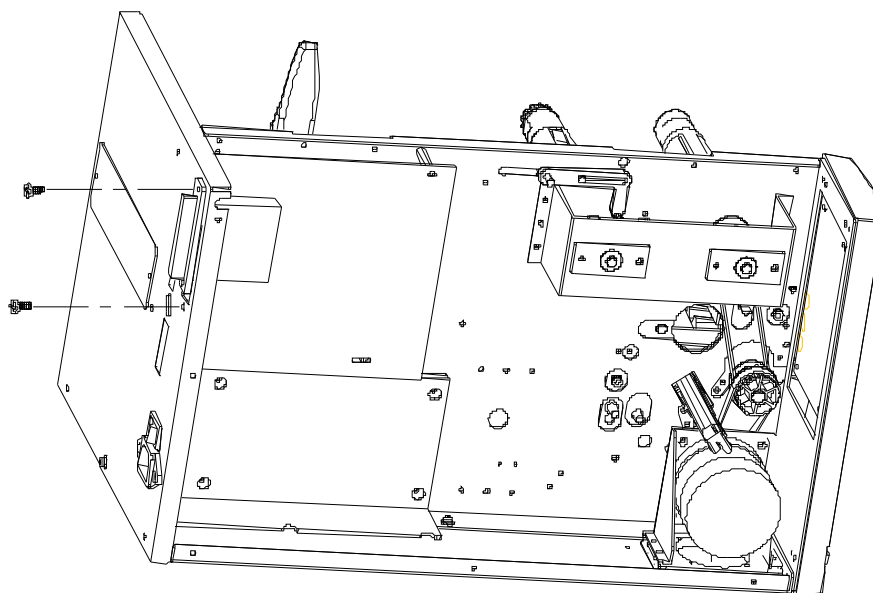

**Figure 10.1.4**
8. Pull out the Ethernet card (93) from the main board, and then insert the new Ethernet card (93) to main board as shown in Fig. 10.1.4.